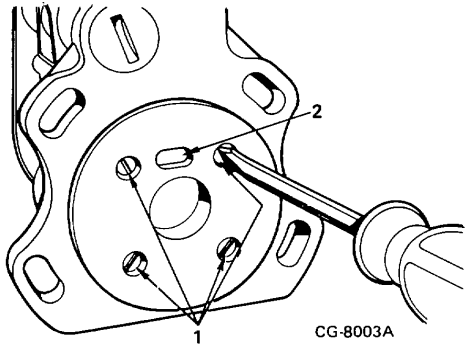

Figure 30.
34. Remove four capscrews and lockwashers from camshaft bearing retainer on drive end of pump (Figure 30).